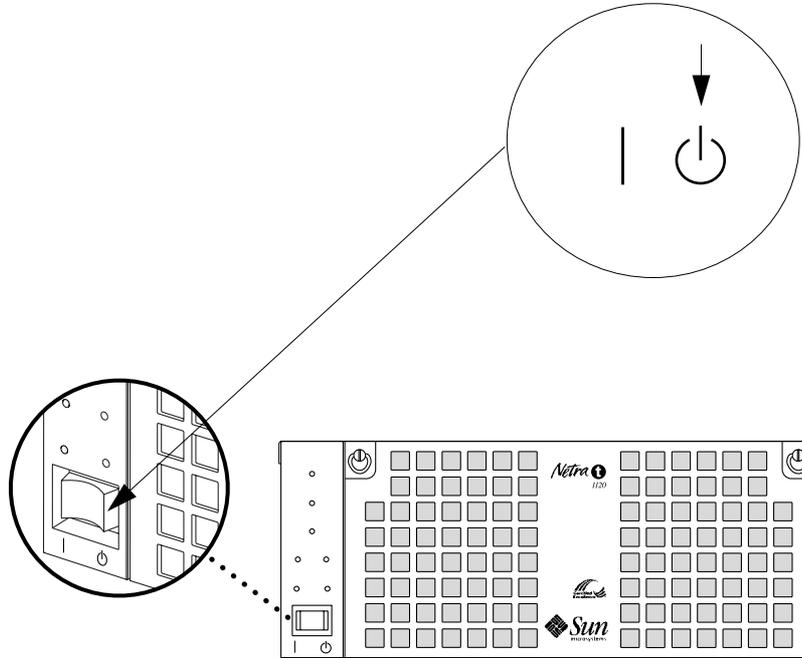

FIGURE 6-2 System Power-Off (Front Panel)
4. Momentarily set the front panel ON/STBY system switch to the STBY  position (FIGURE 6-2) until the system powers down.